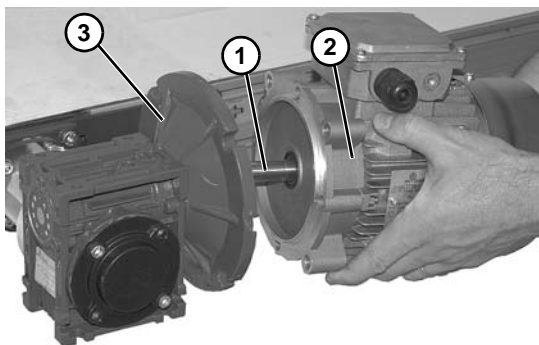

Figure 19
10. Apply anti-seize to motor shaft before assembling to gearbox. With key (**Figure 19, item 1**) in keyway, slide motor (**Figure 19, item 2**) and gear reducer (**Figure 19, item 3**) together.